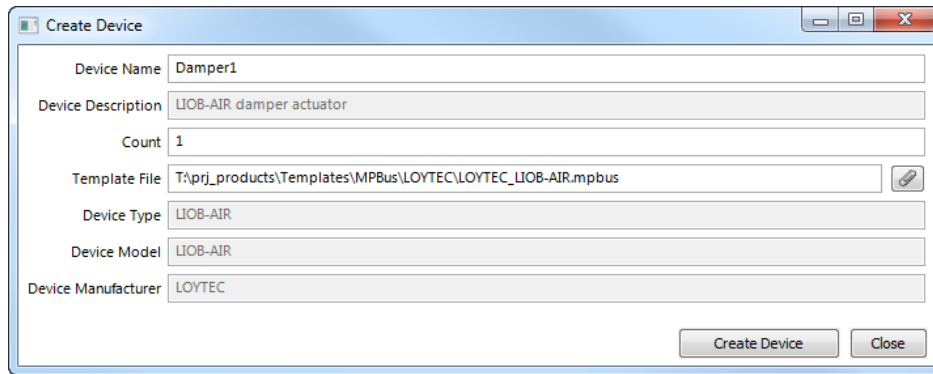

Figure 176: MP-Bus device creation dialog
3. In the **Create Device** dialog enter a Device Name and a Count of devices to be created as shown in Figure 176.